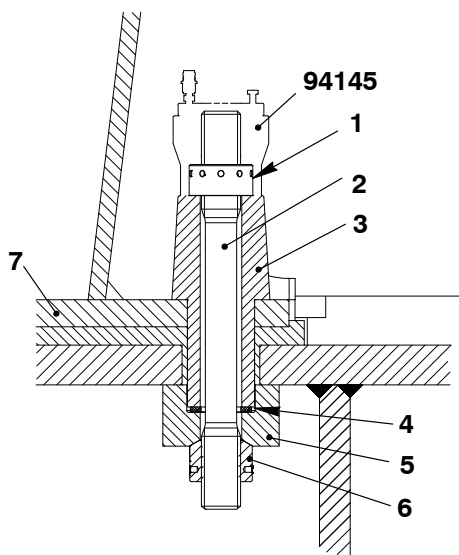

Fig. 1
In the area of the thrust bearing, the bedplate (7, Fig.1) and the foundation must be attached with foundation bolts (2) and the long bushes (3).
- 1) To release and apply tension to the foundation bolts (2), use the pre-tensioning jack (94145, Fig.1).